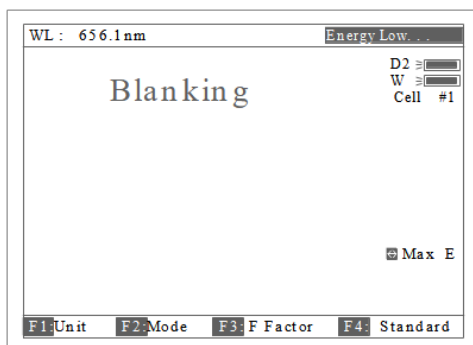

Fig 8
1. If the reference solution is too thick, “Energy Low...” will appear following the “Blanking...” on the screen (Fig 8). If “Energy too Low...” appears following the “Blanking...”, the test will be paused and “Warning...” will appear on the screen. (Fig 9).
2. If no automatic changer installed “cell #1” and “Max E” will disappear in Fig8